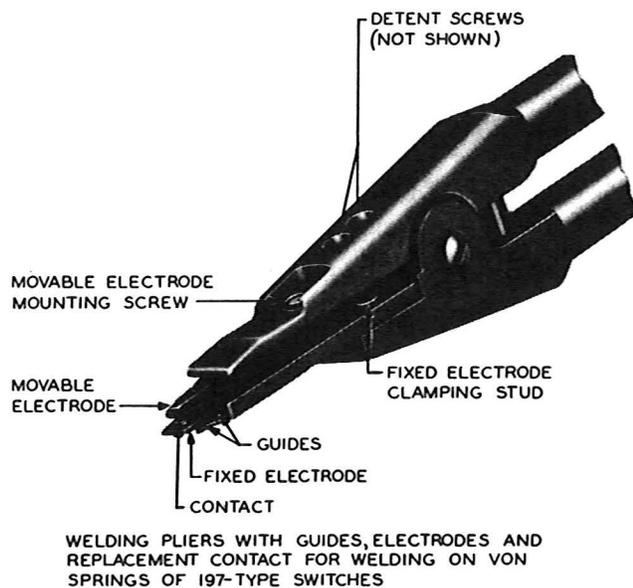

Fig. 4 — No. 577A and 577B Welding Pliers
**3.15 Fixed Electrode:** Fig. 4 — To replace a fixed electrode, compress the handles of the welding pliers to open the jaws. Loosen the clamping stud carefully by turning it in a clockwise direction with the 3-inch C screwdriver just enough to permit the electrode to be removed. Place the slotted end of the replacing electrode in position so that the electrode positioning stud on the pliers fits into the slot on the electrode, and then push the electrode toward the back of the pliers as far as the stud permits. Turn the clamping stud in a counterclockwise direction until the electrode is held securely.
**3.16 Movable Electrode:** Fig. 4 — To replace a movable electrode, first remove the fixed electrode as covered in 3.15. Remove the screw that holds the movable electrode in place using the 3-inch C screwdriver and exercising care not to lose the associated stud and two washers. To mount the proper movable electrode, insert the stud in the electrode so that the shoulder of the
(1) ***197-Type Switches — VON and Rotary Interrupter Springs:*** For welding contacts on the movable springs, the S guide is placed on the outside of the fixed electrode and the T guide on the inside facing the movable electrode as shown in Fig. 4. For welding contacts on stationary springs, the two guides are interchanged.
**3.19** Center the movable electrode. Check whether the detent screws (see Fig. 4) are properly positioned for limiting the movement of the movable electrode to match the contact locating slots in the fixed electrode. If the wider tip electrode (No. 10) is used, the detent screw nearer the tip of the movable electrode should be turned in fully. The other detent screw should be backed out 1-1/2 turns from this position to prevent its rubbing on the movable electrode. If either of the narrower tip fixed electrodes (No. 11, 12, or 13) is used, both detent screws should be turned in fully.